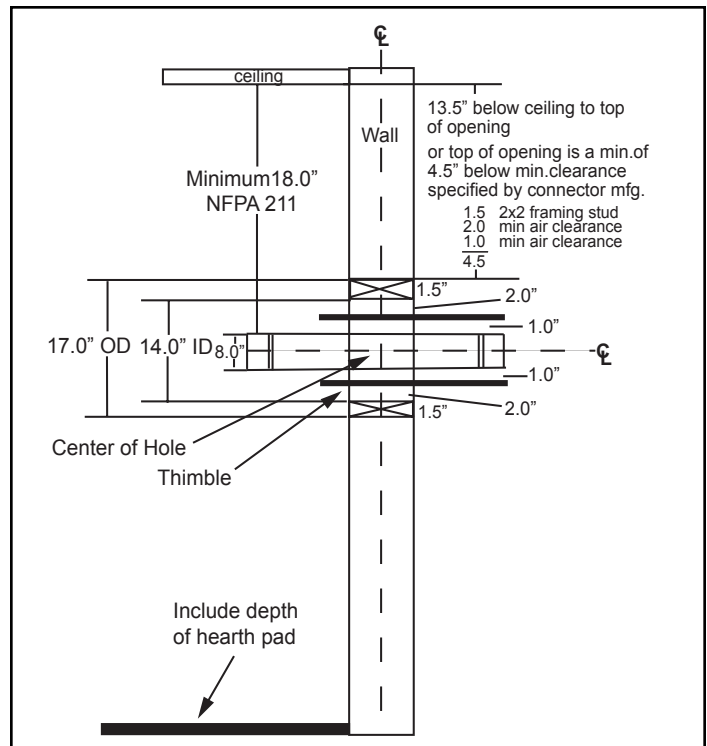

Figure 4.3
- Top of wall opening is a minimum of 13-1/2" (343 mm) from ceiling or 4-1/2" (114 mm) below minimum clearance specified by chimney connector manufacturer. NFPA 211 minimum vertical clearance of 18" (457 mm) from chimney connector and ceiling or minimum recommended by chimney connector manufacturer, Figure 4.3
1. Open inside wall at proper height for the chimney connector to enter the masonry chimney, Figure 4.3